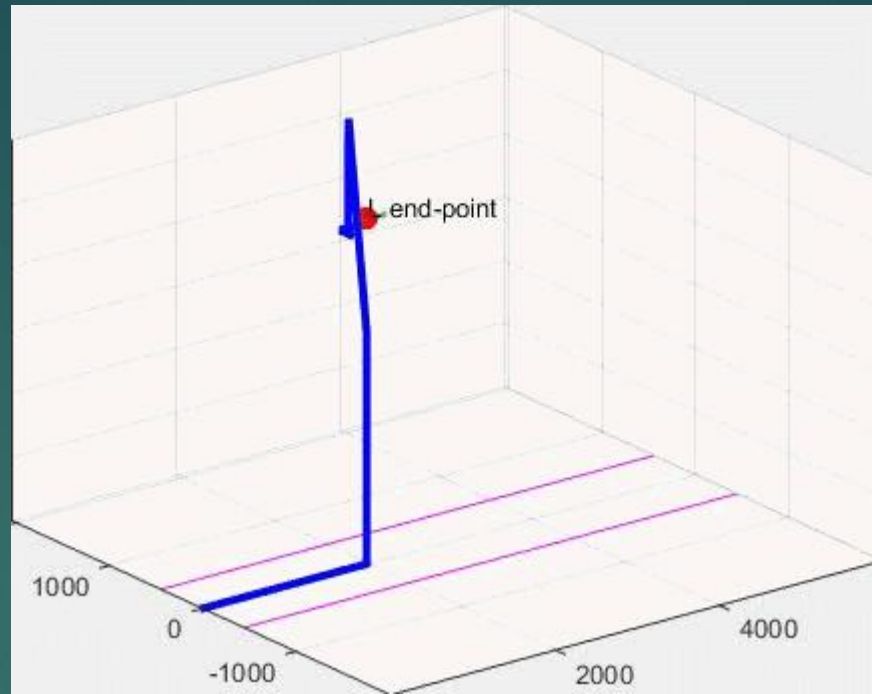

Fig.11
- ▶ Fig.11 – MATLAB® animation model
- ▶ Fig.13 – Approximate 3D animated model of dolly, relatively corresponds to Fig.11, but not exact representation. Developed in Inventor 2016.